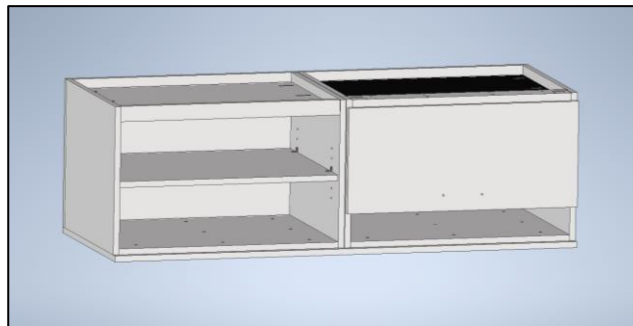

Figure 1
1. Once the top is attached, lay the units upside down on a nonmarring surface (Figure 1)